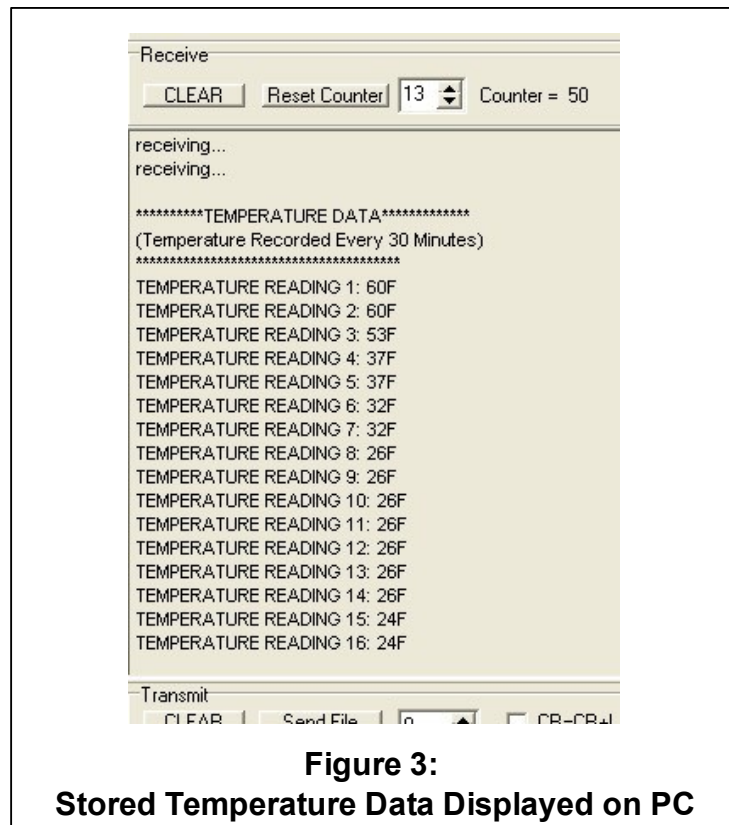

Figure 3:
3. On the PC, hit any key to display the stored temperature readings in an easy-to-read format (Figure 3). Note: the temperature storage buffer will be emptied by this action.